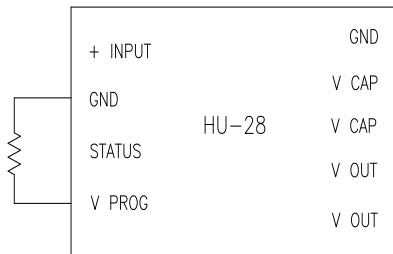
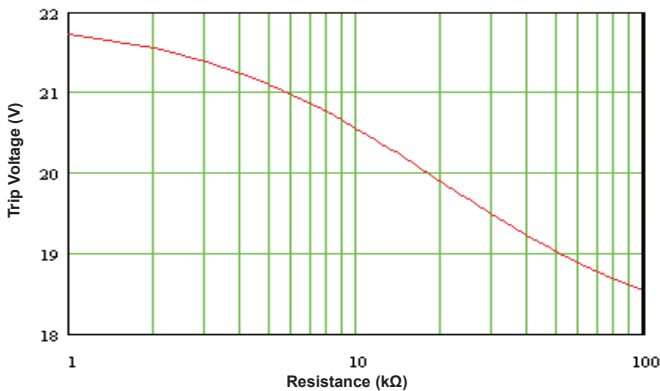

Figure A5. External resistor method for obtaining a trip voltage greater than 18V
Figure A6. Trip voltage as a function of resistance connected between V_{PROG} and GND
- b. For a trip voltage greater than 18V, connect a resistor between V_{PROG} and GND as shown in figure A5. The trip voltage can be estimated from figure A6.